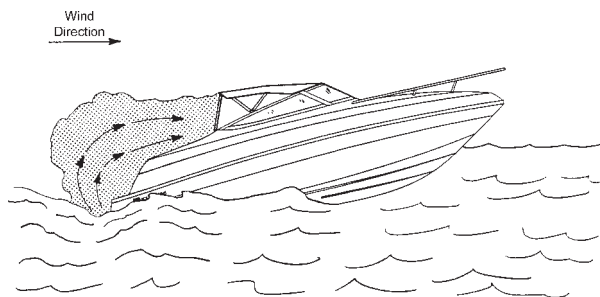

Figure B12: Operating at Slow Speed with Following Wind
5. Operating a boat at slow speeds with a following wind should be avoided. Consider changing direction, adjusting speed, or both. See Figures B12.